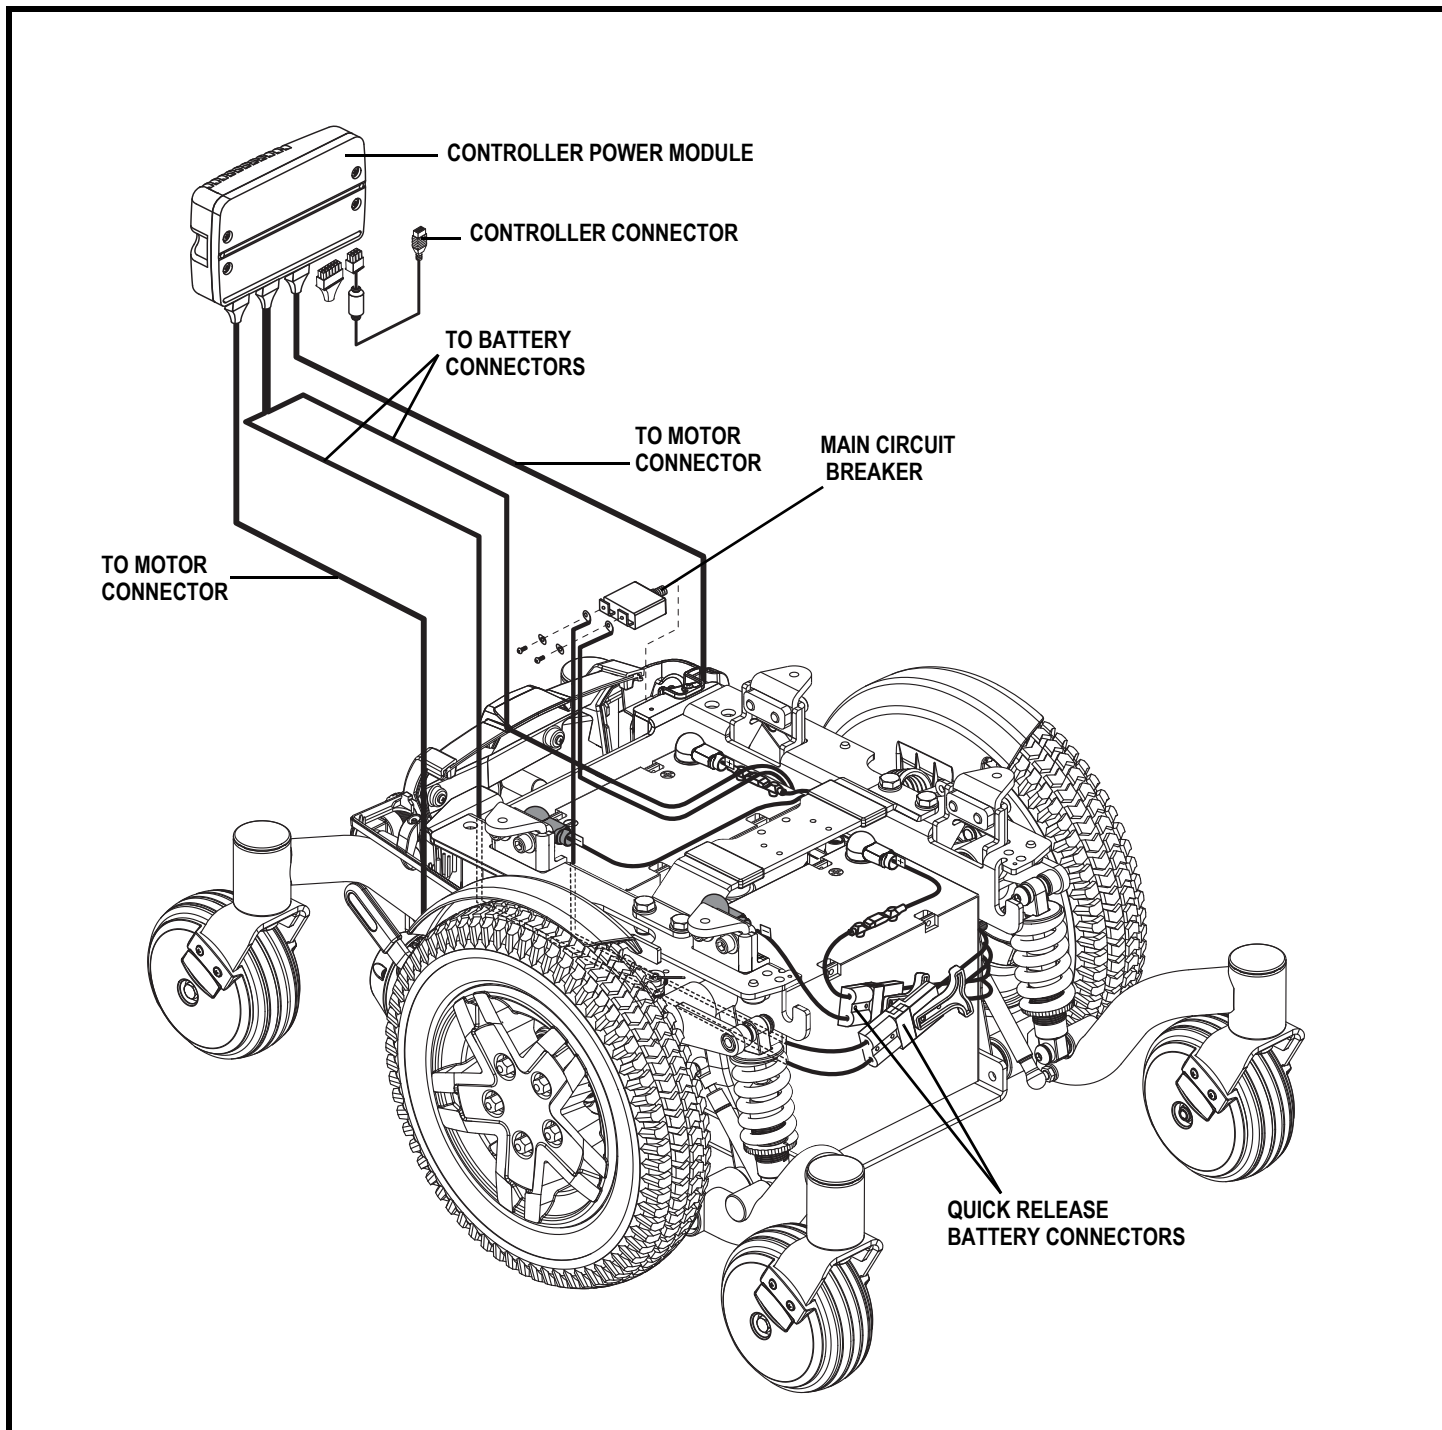

Figure 3. Q6 Edge VA Electrical Components
The electrical components consist of the controller assembly, the batteries, and the motors. The batteries, motors, and controller power module (if equipped) are located on the power base assembly. The controller is located on the seat assembly. Connectivity between the controller and the motors, batteries, and the battery charger is provided by one or more wiring harnesses. **See figure 3.**
5. Plug the controller connector into the rear of the power base. See figure 3.
3. Unplug the controller connector(s) from the power base. See figure 3.